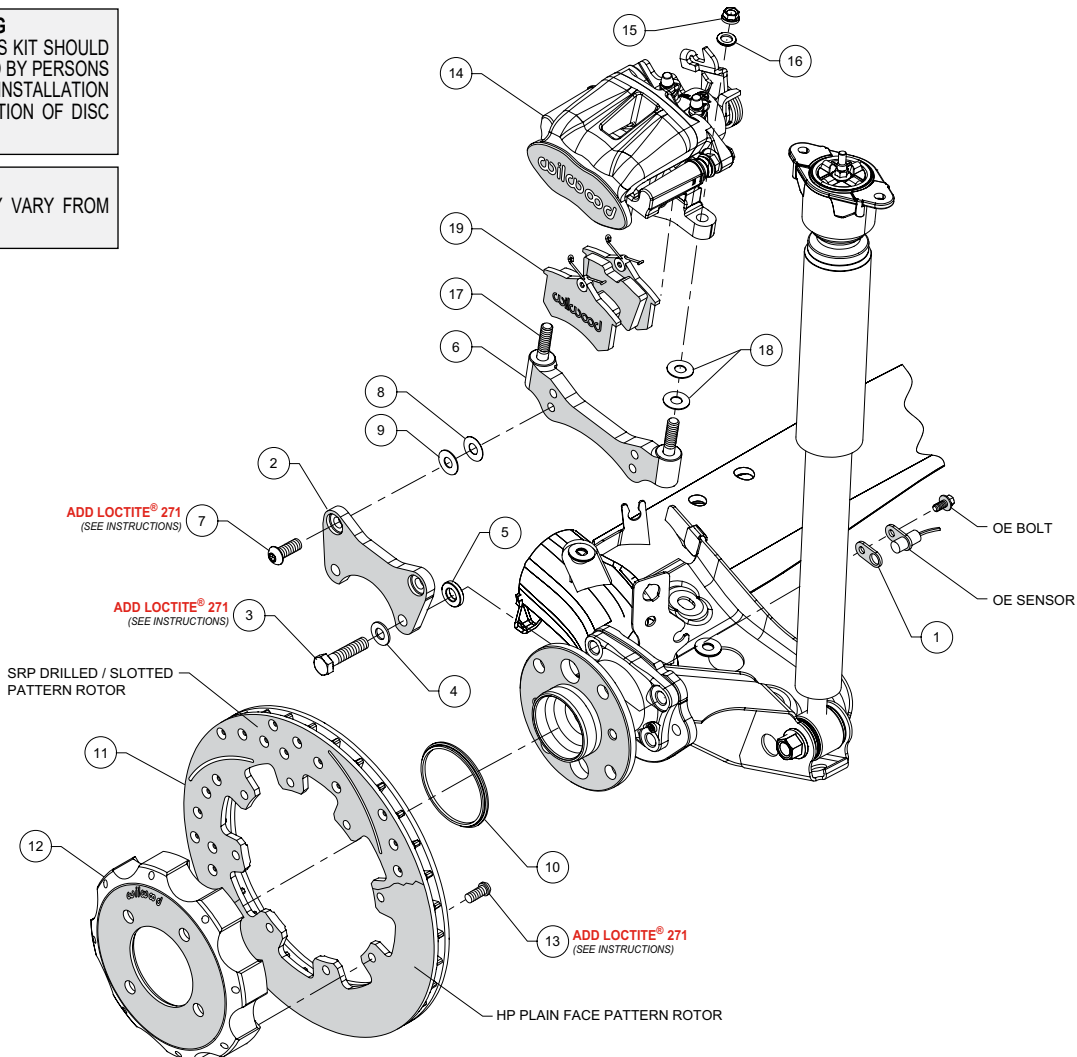

Figure 1. Typical Installation Configuration
- Remove the Original Equipment Manufacturer (OEM) bolt that secures the sensor from the backside of the upright. Place spacer (1) between sensor and upright as shown in Figure 1, and secure with OEM screw.
- The flat bracket (2) should initially be installed with clean, dry threads on the mounting bolts. Orient the bracket as shown in Figure 1 and Photo 1, and install using mounting bolt (3), washer (4), and spacer (5) placed between the bracket and upright. Temporarily tighten the mounting bolts. **NOTE:** The bracket must fit squarely against the mount bosses on the upright. Inspect for interference from casting irregularities, machining ridges, burrs, etc. After the bracket fitting has been confirmed, remove the mounting bolts one at a time and coat the threads with red *Loctite*® 271. Torque bolts to 45 ft-lbs.
- The caliper mount bracket (6) should initially be installed with clean, dry threads on the mounting bolts. Orient the bracket as shown in Figure 1 and Photo 2, and install using mounting bolt (7). Initially place one each .035" thick shim (8), and .016" thick shim (9) on each bolt between the flat bracket (2) and the caliper bracket, Figure 1. Later, after the caliper alignment has been checked, the mount bolts will be secured using red *Loctite*® 271.
- Orient the rotor (11) and the hat (12) as shown in Figure 1 and Photo 3. Attach rotor to hat using bolts (13). Using an alternating sequence, apply red *Loctite*® 271 to the threads, and torque to 25 ft-lb.
- Slide the rotor registration adapter (10) onto the axle register on the axle hub with the smaller O.D. facing outward, Photo 4. Slide the hat/rotor assembly onto the axle hub, Photo 5. **NOTE:** The hat must fit flush against the axle hub flange or excessive rotor run out may result. Install three lug nuts (finger tight) to keep the hat/rotor assembly in place while continuing with the installation.
- Slide the brake pads (19) up into the caliper (14) from the bottom with the friction material facing the rotor until the "v" spring clip snaps into place against the anvil, as shown in Figure 1 and Photo 6. They should install easily without interference.
- Initially place two .035" thick shims (18) on each stud (17) as shown in Figure 1. Mount the caliper (14) onto the caliper mounting bracket (6) using washers (16) and lock nuts (15), as shown in Figure 1 and Photo 7. Temporarily tighten the mounting nuts and view the rotor (11) from the end of the caliper. The rotor should be centered in the caliper, Photo 8. If not, adjust by adding or subtracting .016" shims (9) and/or .035" shims (8) between the caliper mounting bracket and the flat bracket (2) to center the caliper on the rotor. Always use the same amount of shims on each of the two mounting bolts. Once the caliper alignment and pad centering are correct, remove the bracket-to-bracket bolts one at a time, apply red *Loctite*® 271 to bolt threads, and torque to 45 ft-lb.